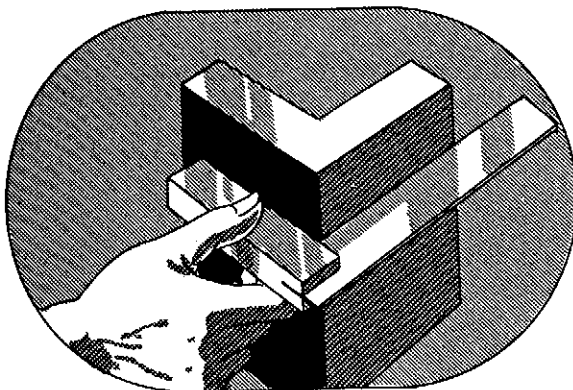

FIG. 194
4. Test the plate for squareness with a try square (Fig. 194).